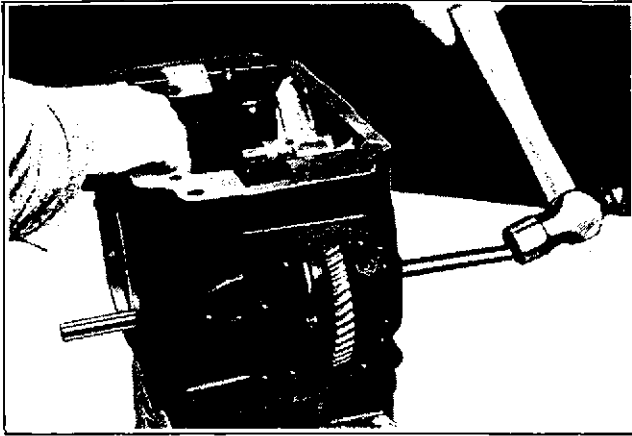

Figure 7-12. Camshaft Removal
2. Using a small punch, drive camshaft pin out from power-take-off (PTO) side of engine. Pin will slide out easily after it is driven free of block (see Figure 7-12). Lift camshaft out of crankcase.